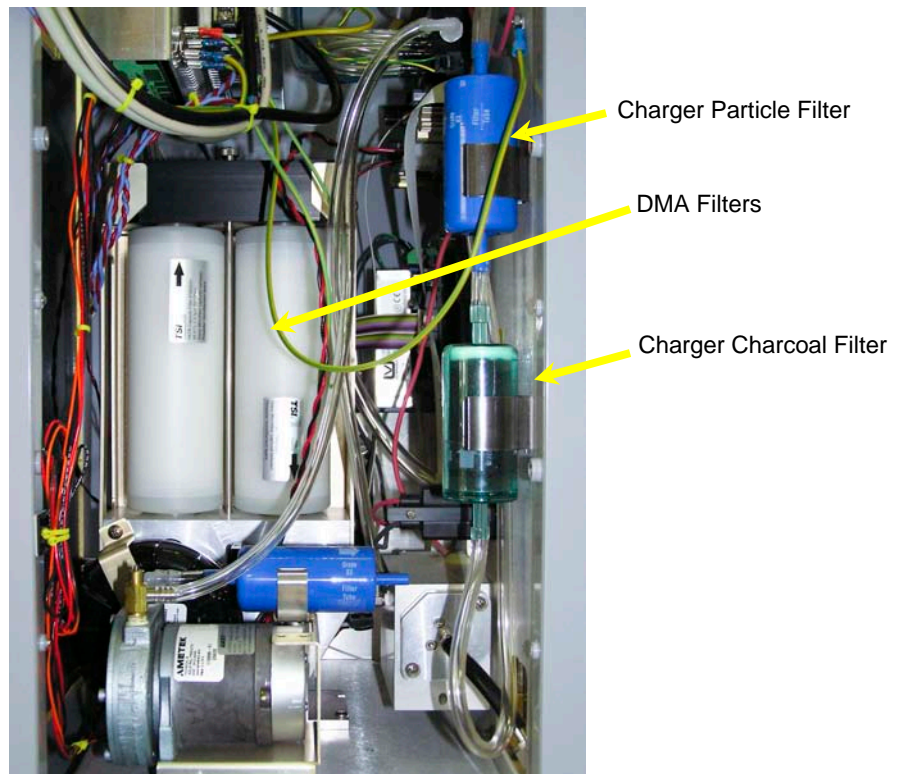

Figure 6-7
2. Access the instrument from the front and locate the charcoal filter as shown in Figure 6-7.
2. Access the instrument from the front and locate the particle filter as shown in Figure 6-7.
2. Access the instrument from the front and locate the DMA filters (see Figure 6-7).